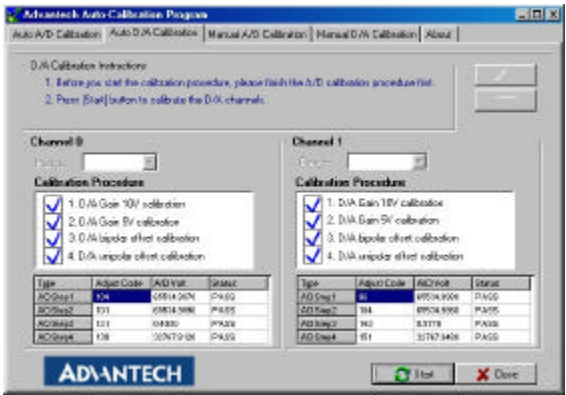

Fig. 5-14 D/A Calibration is finished
Step 12: Auto-calibration is finished (Fig. 5-14)